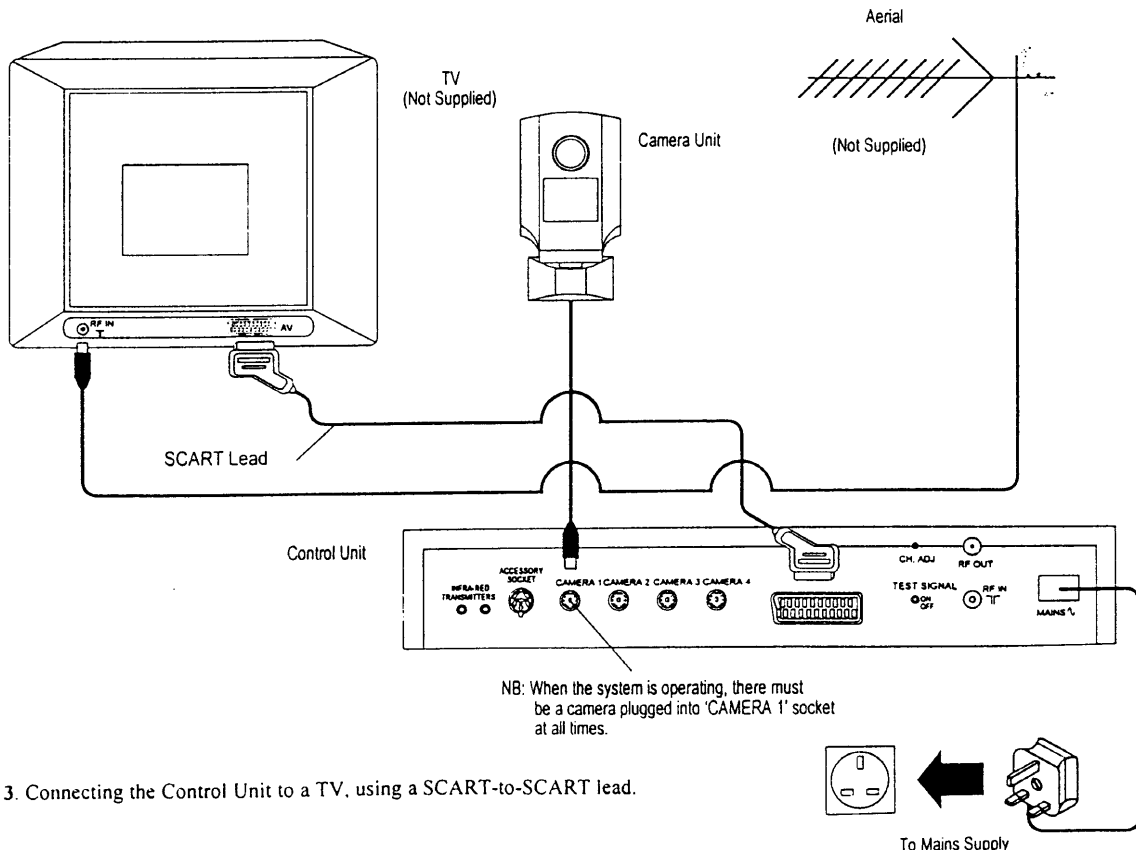

Figure 3. Connecting the Control Unit to a TV, using a SCART-to-SCART lead.
- Step 1. Connect one end of the SCART-to-SCART lead to the TV, and the other end to the Control Unit (see figure 3).